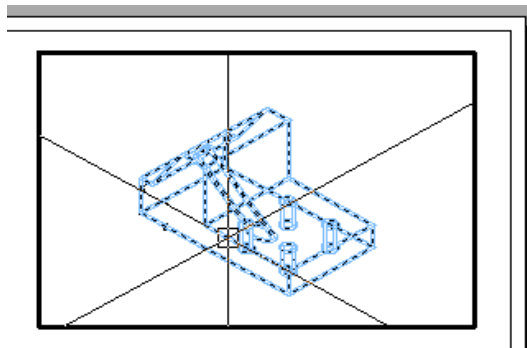

Figure Step 15A
Step 15 Change to current space to Model and select the isometric view as the current viewport. Enter the SOLPROF command as shown below. (Figure Step 15A and 15B)